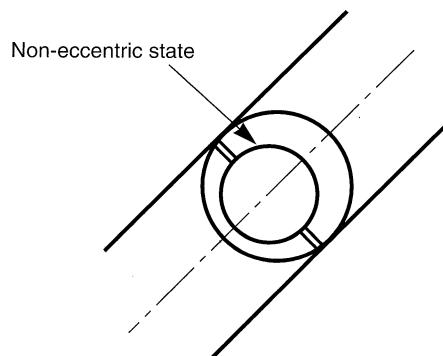

Fig. 3-17 Adjustment Collar Setting
- Make the group 2 and 3 eccentric collars non-eccentric. (See Fig. 3-17.)